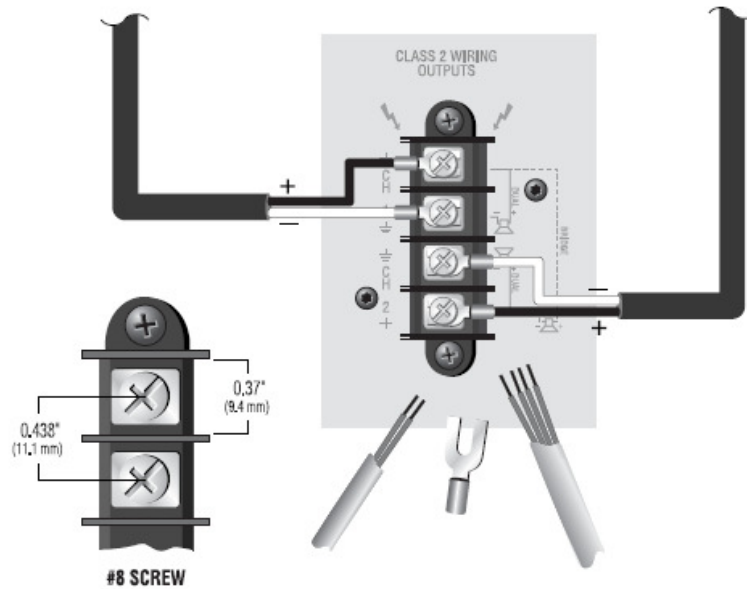

Figure 2.3 Typical Output Connector Wiring
**AE TECHRON** recommends using professionally constructed, high-quality, two- or four-conductor, heavy gauge wire and connectors. You may use terminal forks up to 10 AWG or bare wire for your output connectors (see Figure 2.3). To prevent the possibility of short-circuits, wrap or otherwise insulate exposed cable connectors. For best results, **AE TECHRON** recommends Panduit part #PV10-10LF-L or equivalent terminal fork. Screw spacing is also shown in Figure 2.3.